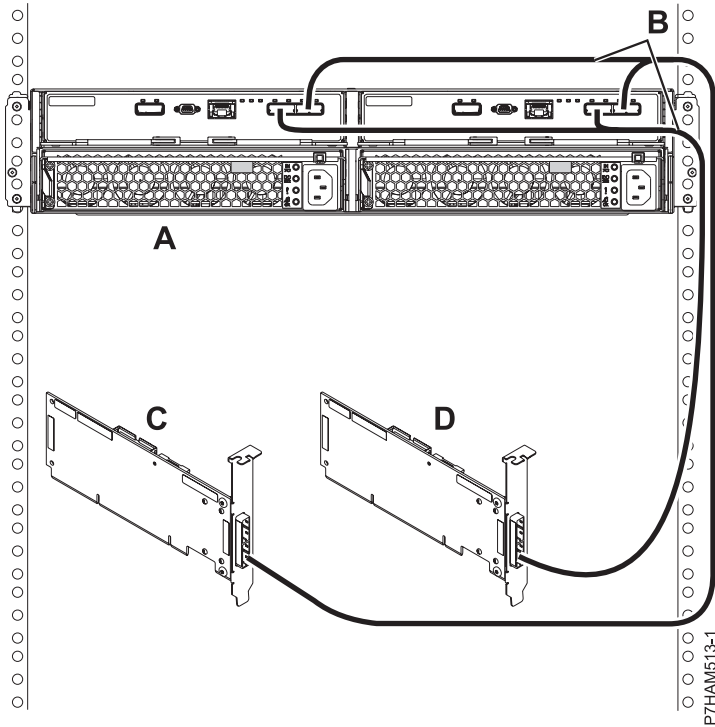

Figure 16. Mode 2 connection of one 5887 disk drive enclosure by using YO cables to two independent SAS adapters
17. Perform the mode 2 connection of one enclosure (A) by using YO cables (B) to two independent SAS adapters. See Figure 16 on page 17.